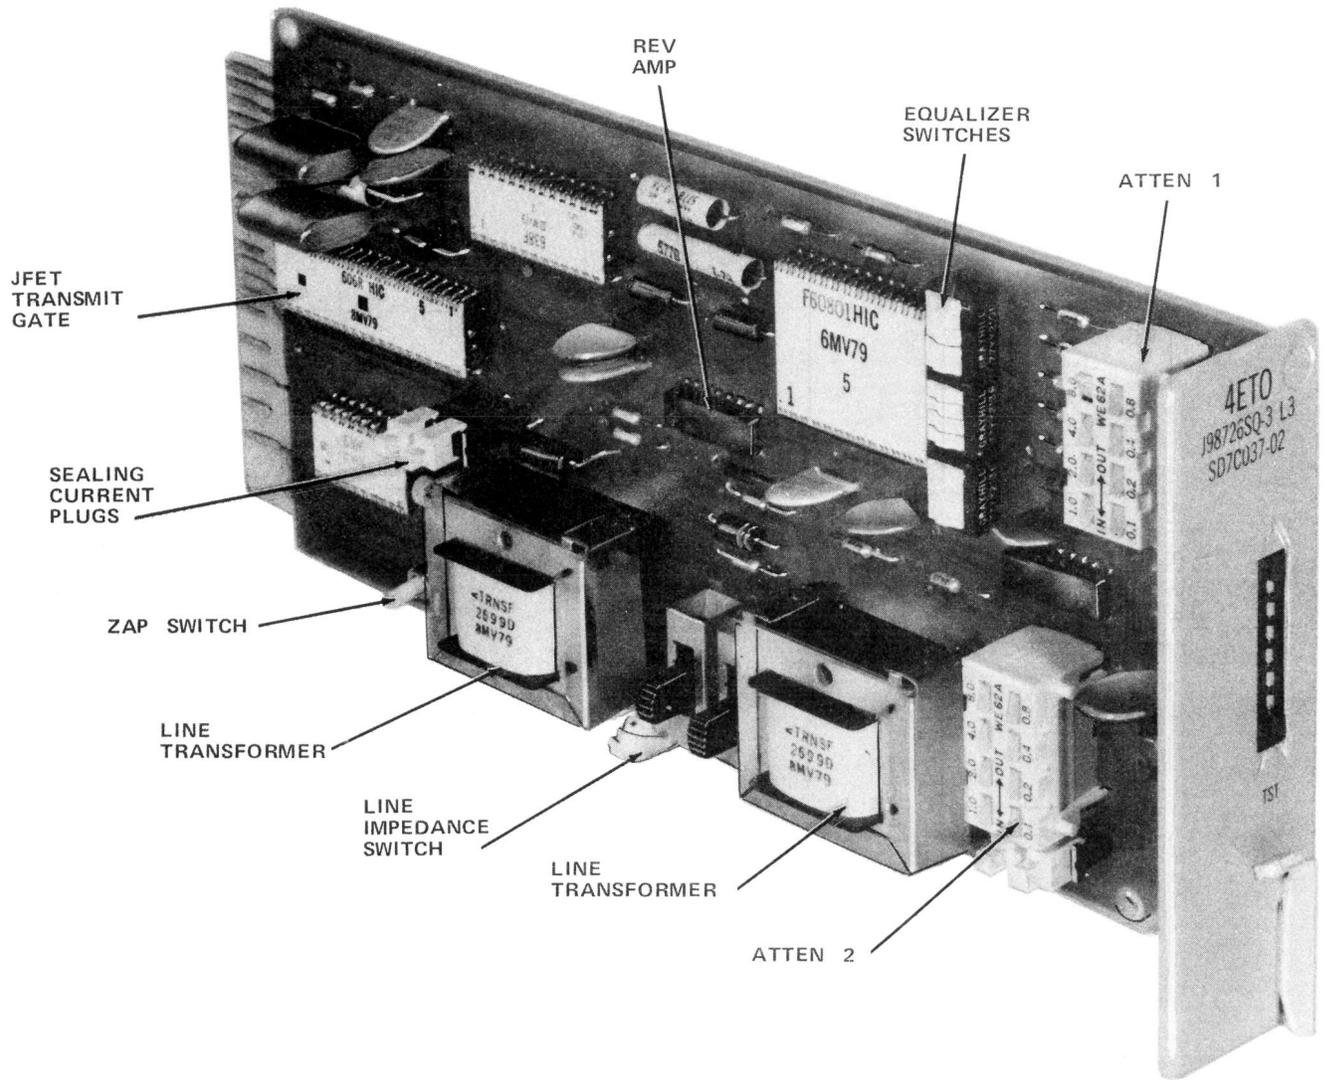

Fig. 2—4-Wire Transmission Only
2.02 The 4TO unit is provided for use on circuits requiring no signaling or using end-to-end inband signaling in back-to-back carrier applications. It is also provided with dc loop-sealing current for extensions with hand-wrapped splices (Fig. 2).